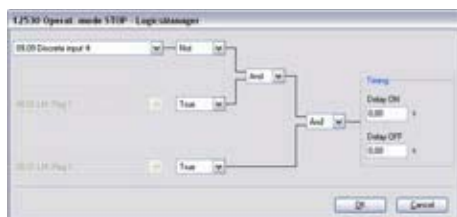

Fig. 157: LogicsManager function "Operat. mode STOP"
- ➔ The LogicsManager function "Operat. mode STOP" (parameter 12530 ↗ p. 254) can be configured as shown in (Fig. 157).